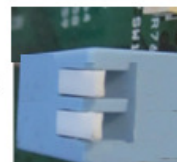

Figure 15: Example PCB sealing bracket
- By means of the PCB sealing bracket the SPU electronics is sealed to the flameproof certified Box, see Figure 15.